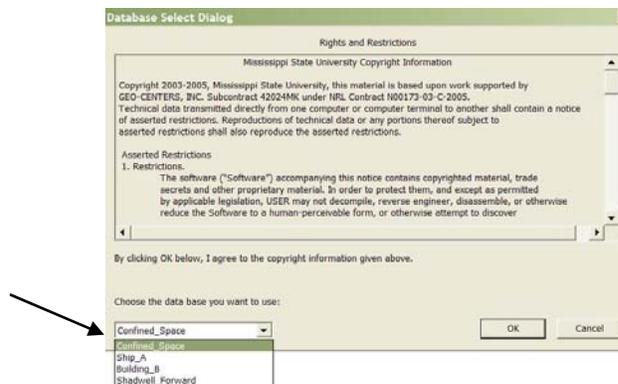

Figure 3-2 Database selection
Step 1: The Database Selection dialog (shown in Figure 3-2) pops up. From the drop down menu, select the Confined Space database (Confined\_Space) and click OK